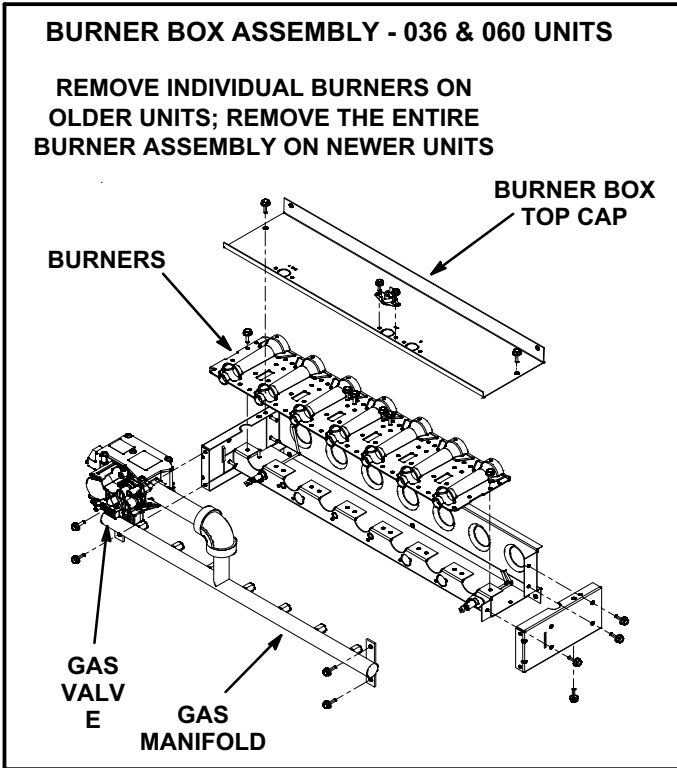
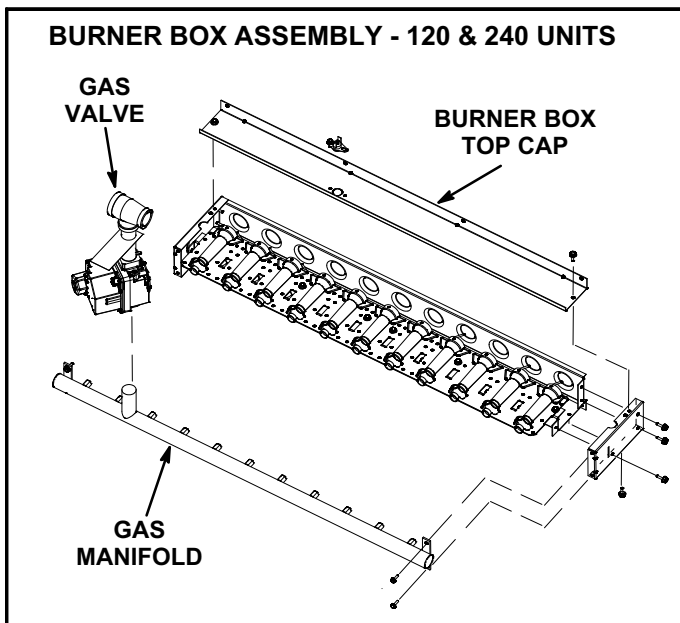

FIGURE 39
FIGURE 40
- 4- Remove and retain two screws securing burners to burner support and lift the individual burners or the entire burner assembly from the orifices. See figure 39 for 036 & 060 units and figure 40 for 120, 240 units. Clean burners as necessary.